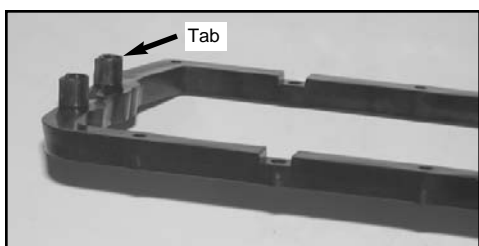

Fig. 1
If your application has four tabs on the air filter cage proceed to step 2. (Fig. 1)
2. Using cutters or a pair of side cutters, cut the tabs located on the air filter cage. (Fig. 1)